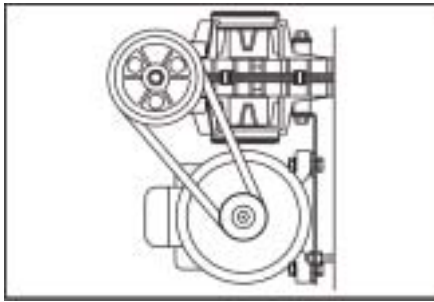

Fig.29
- *The gearing chain: The gearing chain in this machine is made up of motor, pulley, worm reducer, turntable and so on (Fig. 29).*
- *The motor RPM is about 1400. The ratio of speed is 200. The rotary direction is controlled by pedal "⌚" (Fig.29). Depress the pedal to make the turntable rotate clockwise. Release the pedal to stop the turntable. Lift up the pedal "⌚" with foot, the motor and the turntable will both turn counter-clockwise. If contrary to above, change the phase wire of the motor. Connect the ground wire to ground. In the operation, the turntable generally turns clockwise, only when the operation is obstructed occasionally, it needs to turn counter-clockwise.*